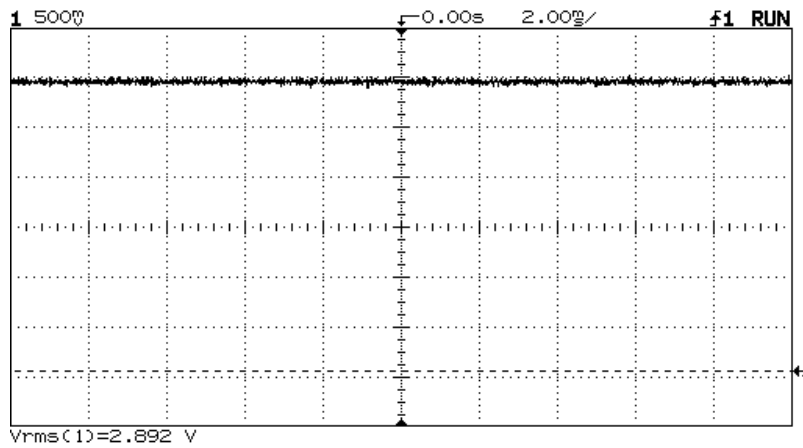

Fig. 3.7 GSM\_LNA Pg. 3-3I TP419
5. **GSM\_LNA** ( Control signal from Superchip pin 29 which switches V\_G-LNA). See figure 3.7.